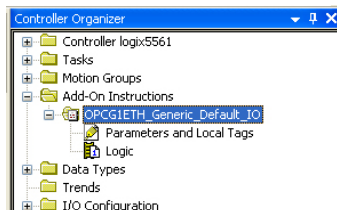

Figure 84: Generic Default IO Add-On Instruction
- 2) Right click on "Add-On Instructions" in the controller organizer view and select "Import>Add-On Instruction". Browse and import the generic default I/O add-on instruction. Refer to Figure 84.